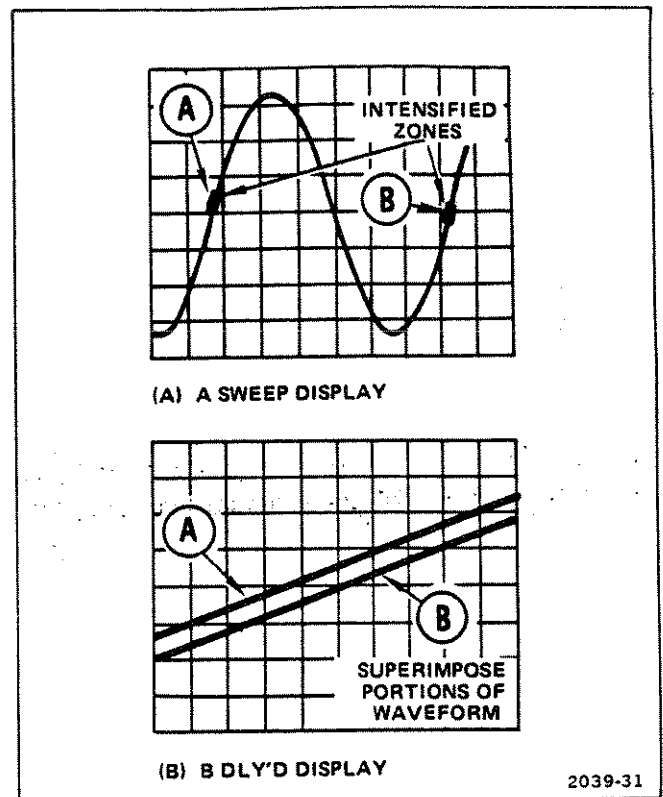

Figure 30. Time duration and frequency.
1. Using the DELAY TIME POSITION control, move the reference point to a convenient horizontal graticule line (see Figure 30, Point A).
2. Using the Δ TIME control, move the time-measurement point along the same horizontal graticule line to the beginning of the next waveform cycle (see Figure 30, Point B).
3. Slightly readjust the Δ TIME control to superimpose the waveforms on the B Sweep display (see Figure 30).